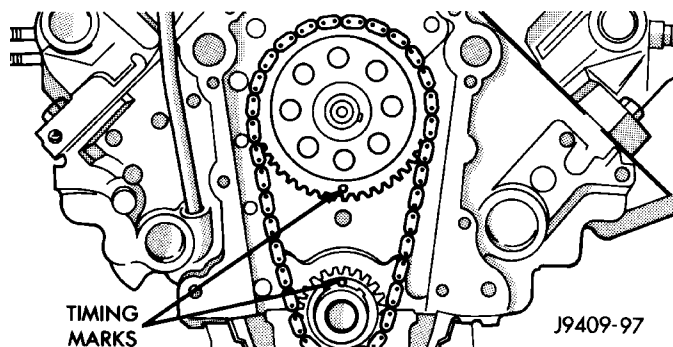

Fig. 30 Alignment of Timing Marks
(4) Install camshaft thrust plate and chain oil tab. **Make sure tang enters lower right hole in thrust plate.** Tighten bolts to 24 N·m (210 in. lbs.) torque. Top edge of tab should be flat against thrust plate in order to catch oil for chain lubrication.
(5) Place both camshaft sprocket and crankshaft sprocket on the bench with timing marks on exact imaginary center line through both camshaft and crankshaft bores.
(6) Place timing chain around both sprockets.
(7) Turn crankshaft and camshaft to line up with keyway location in crankshaft sprocket and in camshaft sprocket.
(8) Lift sprockets and chain (keep sprockets tight against the chain in position as described).
(9) Slide both sprockets evenly over their respective shafts and use a straightedge to check alignment of timing marks (Fig. 30).